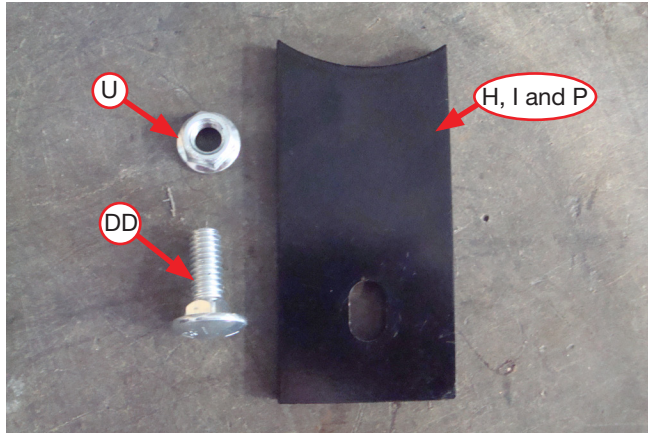
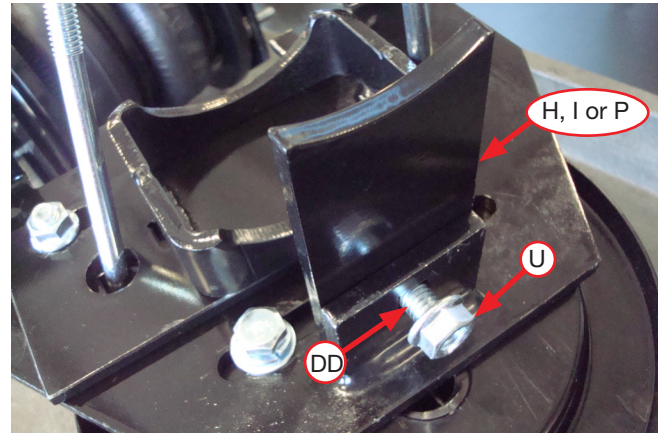

Fig. 15
Fig. 16
7. Select the appropriate leg adapter for the specific vehicle as noted in the chart. Use Tremor adapter (H) for Tremor models. For non-Tremor models, use the 3.5" (I) or 4" (P) adapter depending on what the vehicle has for the axle diameter. Attach the appropriate adapter with a 3/8"-16 x 1" carriage bolt (DD) and 3/8" serrated flange lock nut (U) (Fig. 15). Install as shown (Fig. 16). Push adapter against the lower bracket and torque the hardware to 16 lb.-ft. (14Nm).